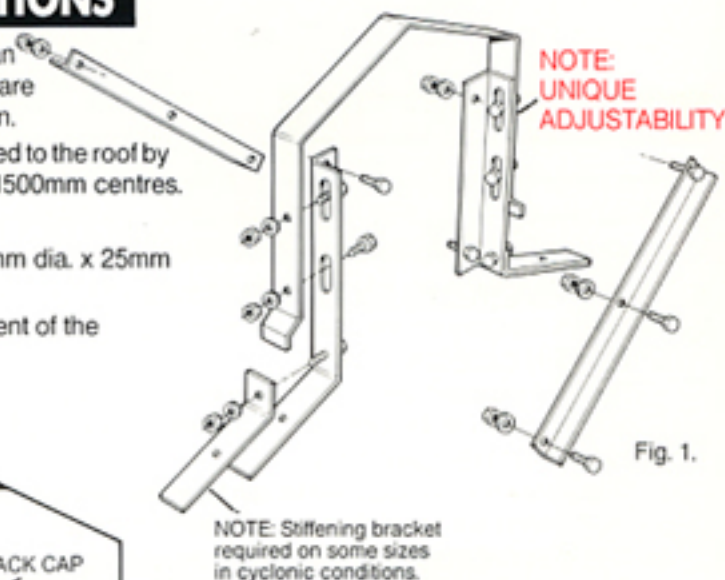

Fig. 1.
1. The brackets are bolted together using 8mm dia. x 25mm hex head bolts as detailed in Fig. 1.